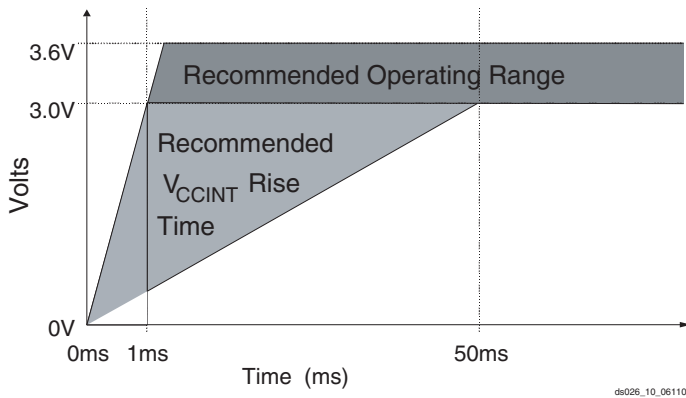

Figure 8:  $V_{\text{CCINT}}$  Power-Up Requirements
On power up,  $\overline{\text{OE/RESET}}$  is held low until the XC18V00 is active (1 ms).  $\overline{\text{OE/RESET}}$  is connected to an external 4.7k $\Omega$  resistor to pull  $\overline{\text{OE/RESET}}$  HIGH releasing the FPGA  $\overline{\text{INIT}}$  and allowing configuration to begin. If the power drops below 2.0V, the PROM resets.  $\overline{\text{OE/RESET}}$  polarity is *not* programmable. See Figure 8 for power-up requirements.
- At power up, the device requires the  $V_{CCINT}$  power supply to monotonically rise from 0V to nominal voltage within the specified  $V_{CCINT}$  rise time. If the power supply cannot meet this requirement, then the device might not perform power-on-reset properly. See Figure 8.